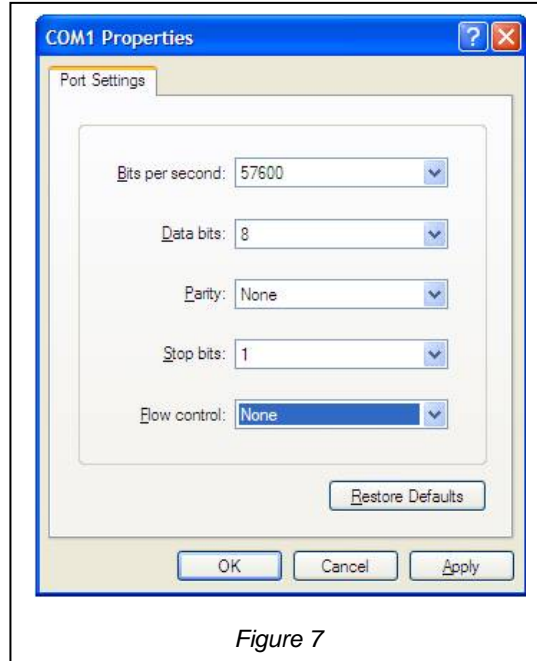

Figure 7
- c) Use the values in Figure 7. to configure the properties of the COM port in the following dialogue box and click OK.